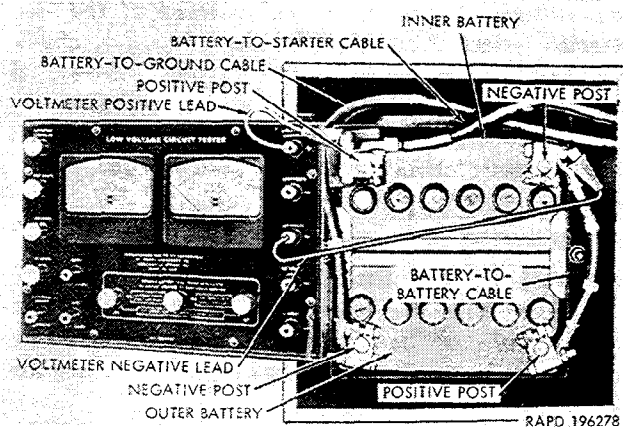

Figure 2-76. Testing voltage of inner battery.
d. *Voltage of Inner Battery (Fig. 2-76).* Connect the positive (+) test lead clip to the positive (+) post of the inner battery and the negative (—) test lead clip to the negative (—) post of the inner battery. Crank the engine with the starter (ignition switch off) and note the reading on the voltmeter lower scale.